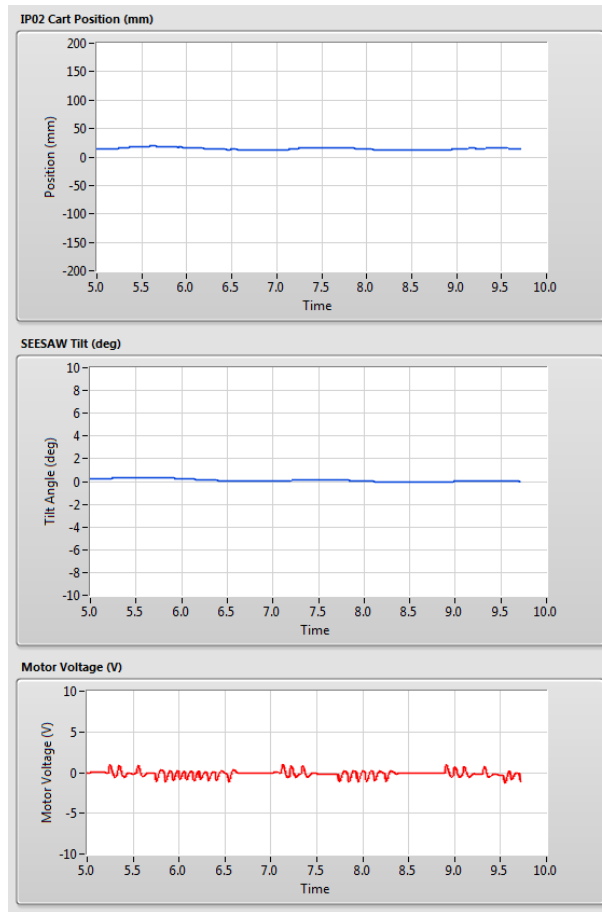

Figure 3.4: Typical response when balancing the SEESAW system
4. Release the seesaw. The scopes should be displaying responses similar to Figure 3.4.